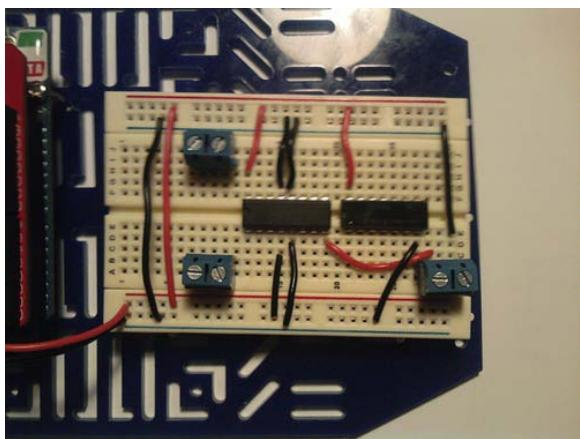

Figure 4-19. Vss, Vs, and ground connected
6. Connect the H-bridge pins 11 and 14 (these are on the right side of the H-bridge) to the other terminal block (see Figure 4-19).